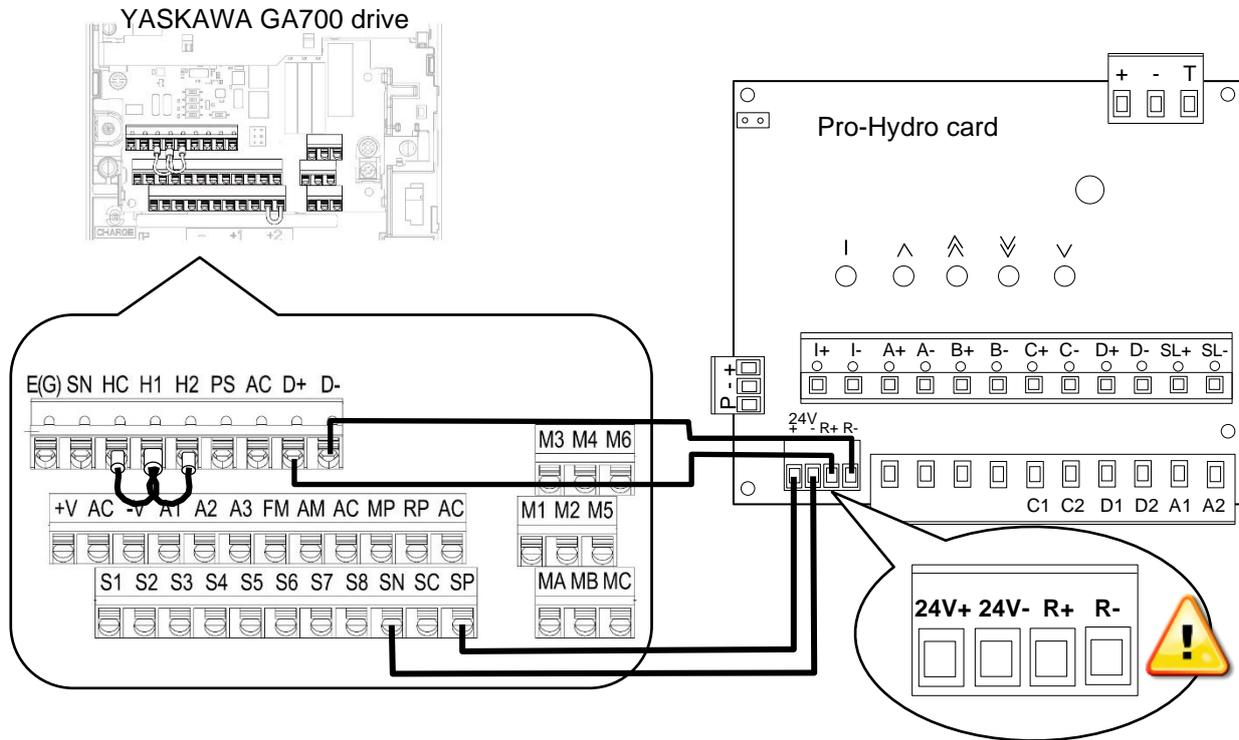

Figure 14: Wiring of GA700 drive to the Pro-Hydro card
- 2- Do following connections between **GA700** drive and the **Pro-Hydro** card as shown in the below Table, see Figure 14.